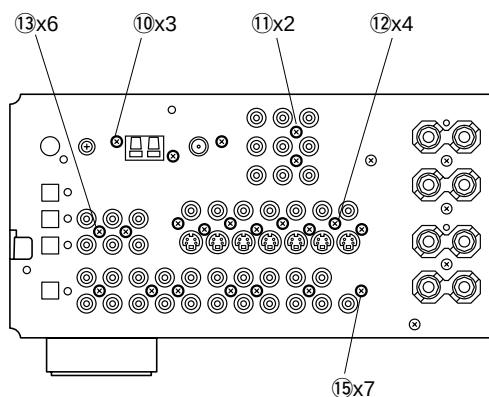

Fig. 4
- Remove 3 screws (⑩) and then remove the AM/FM Tuner in Fig. 4.
- Remove 2 screws (⑪) and then remove the Operation (5) P.C.B. in Fig. 4.
- Remove 4 screws (⑫) and then remove the Operation (3) P.C.B. in Fig. 4.
- Remove 7 screws (⑬ and ⑭) and then remove the Operation (2) P.C.B. in Fig. 4 and 5.
- Remove 8 screws (⑮ and ⑯) and then remove the Input (1)/(2) P.C.B. in Fig. 4 and 5.